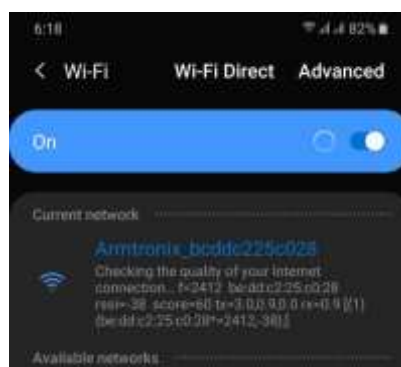

Figure 30: Hosting device with tasmota name
5. Once the device Powered ON, it will host an access point as shown in Figure 30 below: